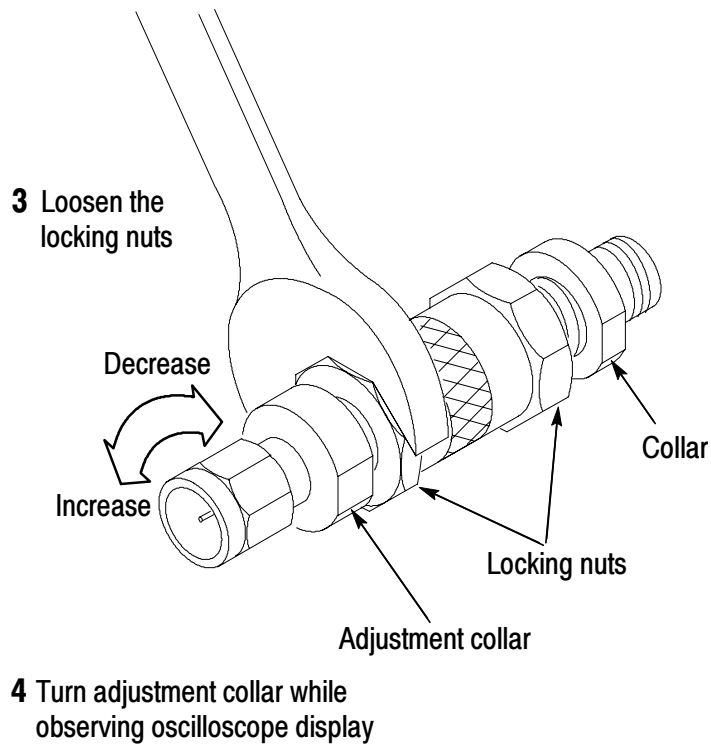

Figure 25: Using the phase adjuster
2. On the cable with the longer delay, loosen the phase adjuster locking nuts, set the phase adjuster to minimum delay (shortest length), and secure the locking nuts. See Figure 25 on page 59.